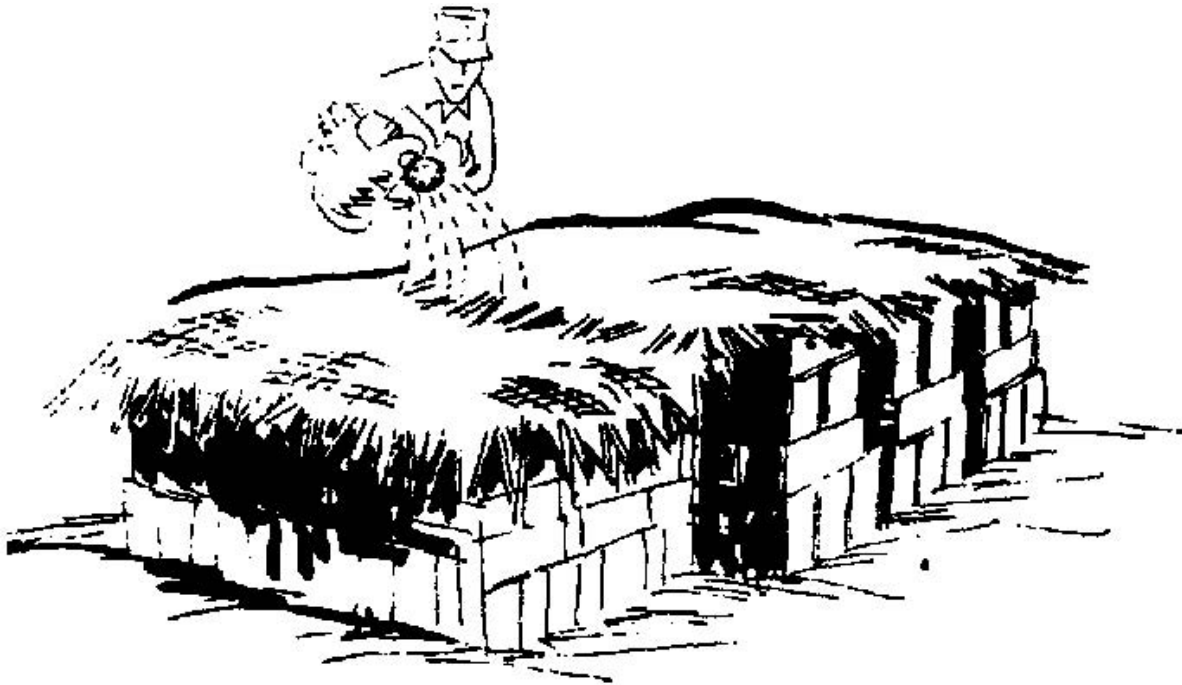

Figure 58.
3. If stabilizers such as lime or cement are used, cover the blocks with wet cloth or straw as soon as the molds are removed. Keep them moist for seven days and then turn them on edge to complete the curing. (See Figure 58, Chapter 9.)
A wet cure period is necessary for *stabilized* blocks to gain strength, particularly if they contain cementing type stabilizers. (See Chapter 2.) During the wet-curing period, blocks should be stood on end and covered with wet sacking, leaves, or other material as shown in Figure 58 so they can be kept moist. After curing, the covering is removed and the blocks are stacked while they dry.